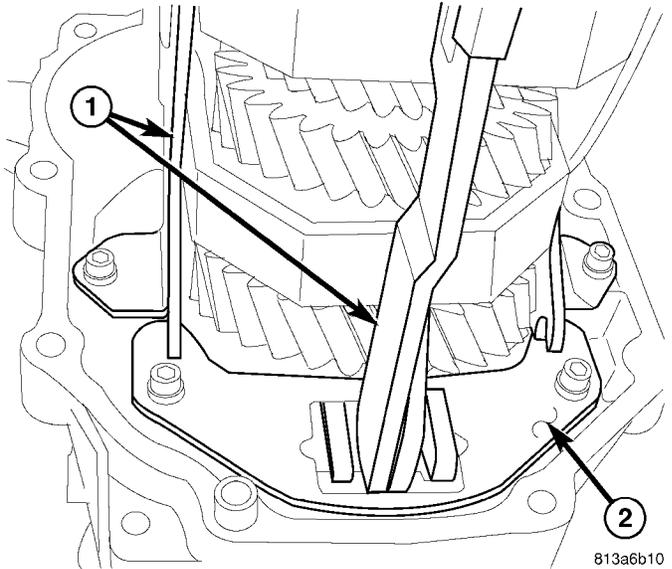

Fig. 15 SHIFT RAIL SUPPORT PLATE
(9) Remove shift rails (1) (Fig. 15) support plate (2) bolts.